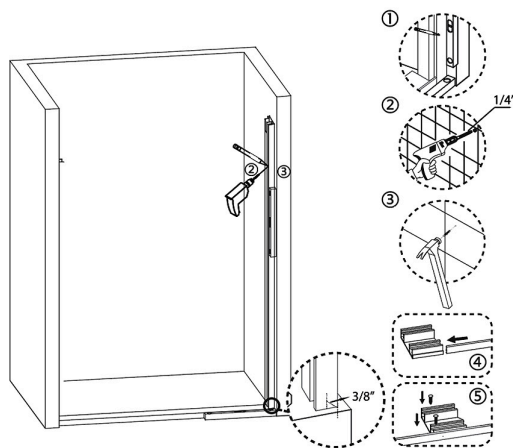

FIGURE 1
(See Figure 1). Ensure tray is level (1). Measure the position of wall profile (to be vertical) and mark the position, then put into wall anchors (2) (3). Insert the central guide into water guard (4). Place the water guard onto shower curb (5). Straighten wall profile and central guide.